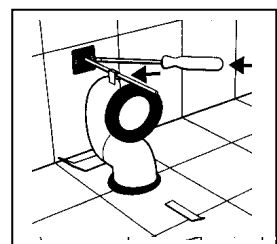

Fig 3
4) Install the brace to the wall and fix the vario bend into position by securing to the brace (See fig 3). Please check the measurements. Place the rubber seal over the front of the vario bend (See fig 3). Lubricate the rubber with an approved silicon based lubricant.